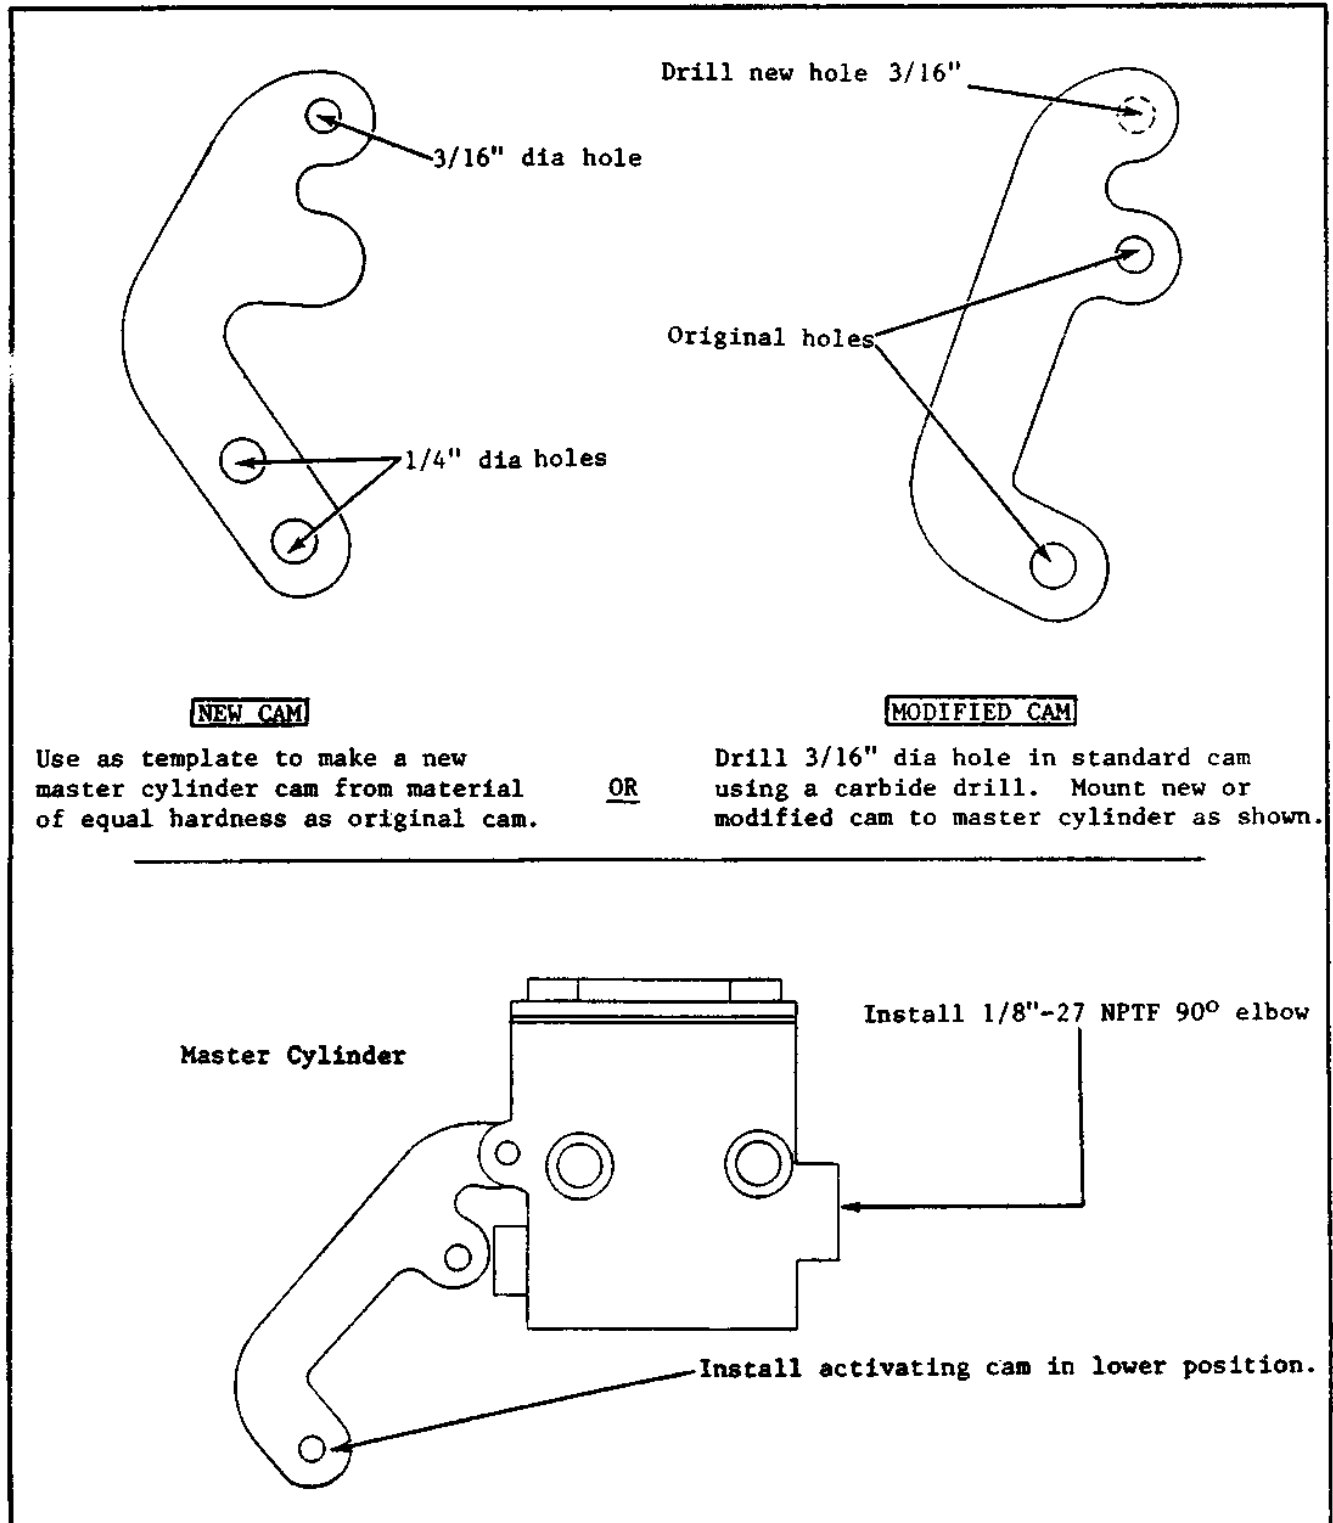

Figure 1
5. To make a brake cam that provides better mechanical advantage, use the brake cam template in Figure 1 to make a new master cylinder cam from material of equal strength and hardness as original cam. Or, the standard cam can be modified to provide nearly as good a mechanical advantage as the new cam by drilling a 3/16" dia. hole in the cam at the location shown. A carbide drill should be used because the cam is hardened.